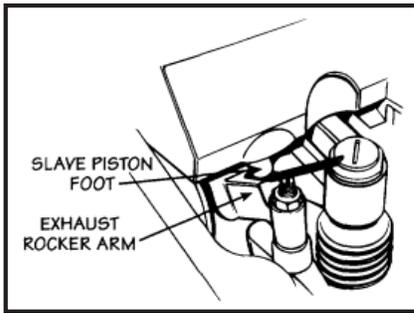

Fig. 9
1. Place the appropriate feeler gage (see Table 1 on page 8) between the slave piston foot and the exhaust rocker arm (see Fig. 9). Turn the slave piston adjusting screw (Auto-Lash®) in clockwise until a slight drag is felt on the feeler gage.